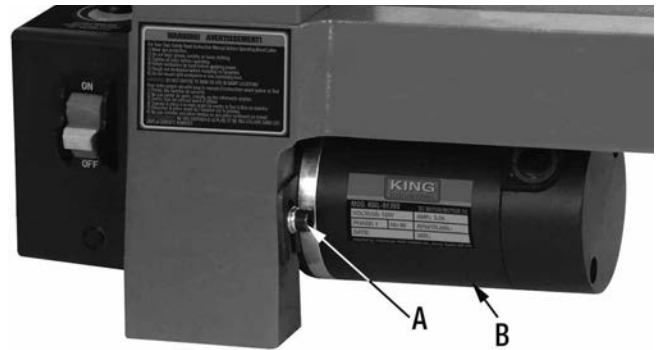

FIGURE 10
1. Loosen or remove cap screw (A) Fig.10 which secures the motor (B).
5. Reinstall identical replacement belt in the reverse order. Once the belt is installed, tension the belt by lowering the motor and securing it with the cap screw (A) Fig.10.